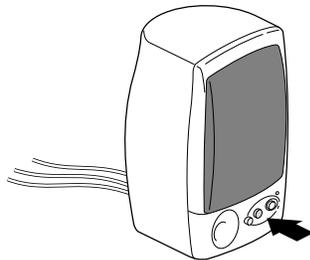

Figure 1-14 Powering On the Speakers
11. Press the power button on the active speaker, as shown in Figure 1-14.